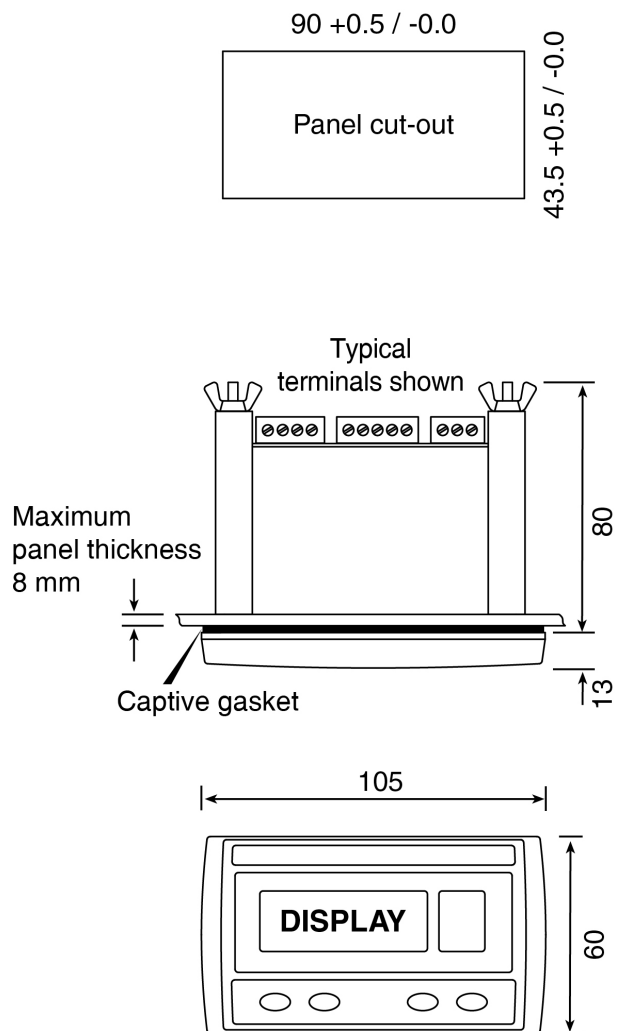

Fig 4 Dimensions
- Cut the aperture specified in Fig 4 in the panel enclosure. Ensure that the edges of aperture are de-burred.
Fig 4 show the overall dimensions of the indicators together with the recommended panel enclosure cut-out dimensions.